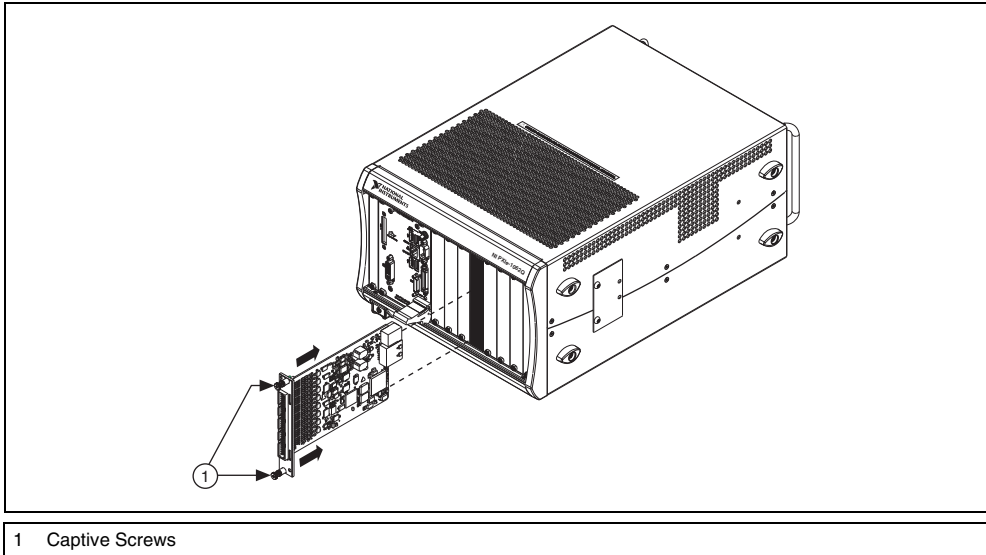

Figure 2. Installing NI SC Express Modules
6. Secure the module to the chassis using the front-panel captive screws, shown in Figure 2. Tighten the screws to $0.31 \text{ N} \cdot \text{m}$ ($2.7 \text{ lb} \cdot \text{in.}$).